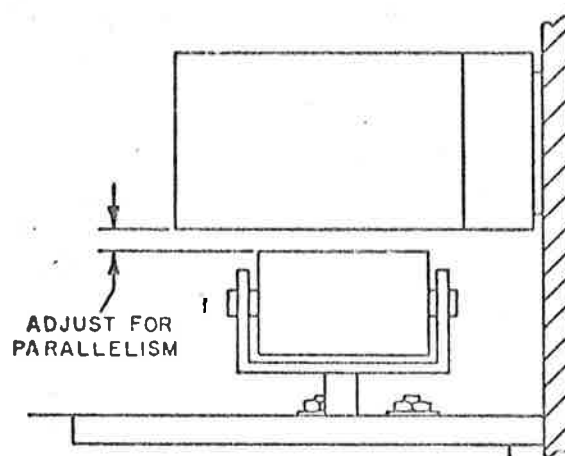
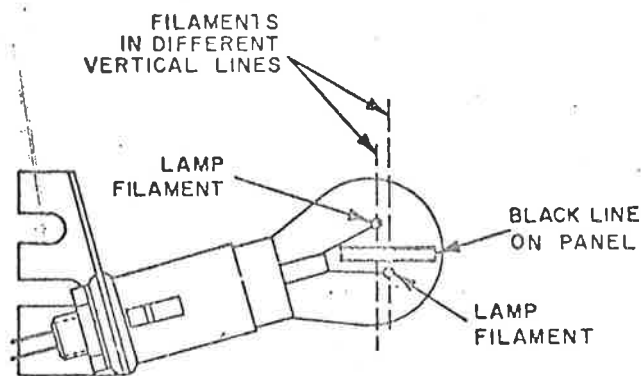

Fig. 1.2 Pinch Roller and Capstan Parallelism
Fig. 1.4 Exciter Lamp Vertical Positioning
- c) Control that the pinch roller centerline and the capstan centerline are parallel in the vertical plane. Fig. 1.2. Adjustment being made after loosing the two screws item 15. Fig. 1.4.
The lamp should be adjusted according to fig. 1.4. This is only a pre-adjustment. Control that the nut on the socket is tightened and that the lamp socket not is to wide. The lamp must have only one stable position.